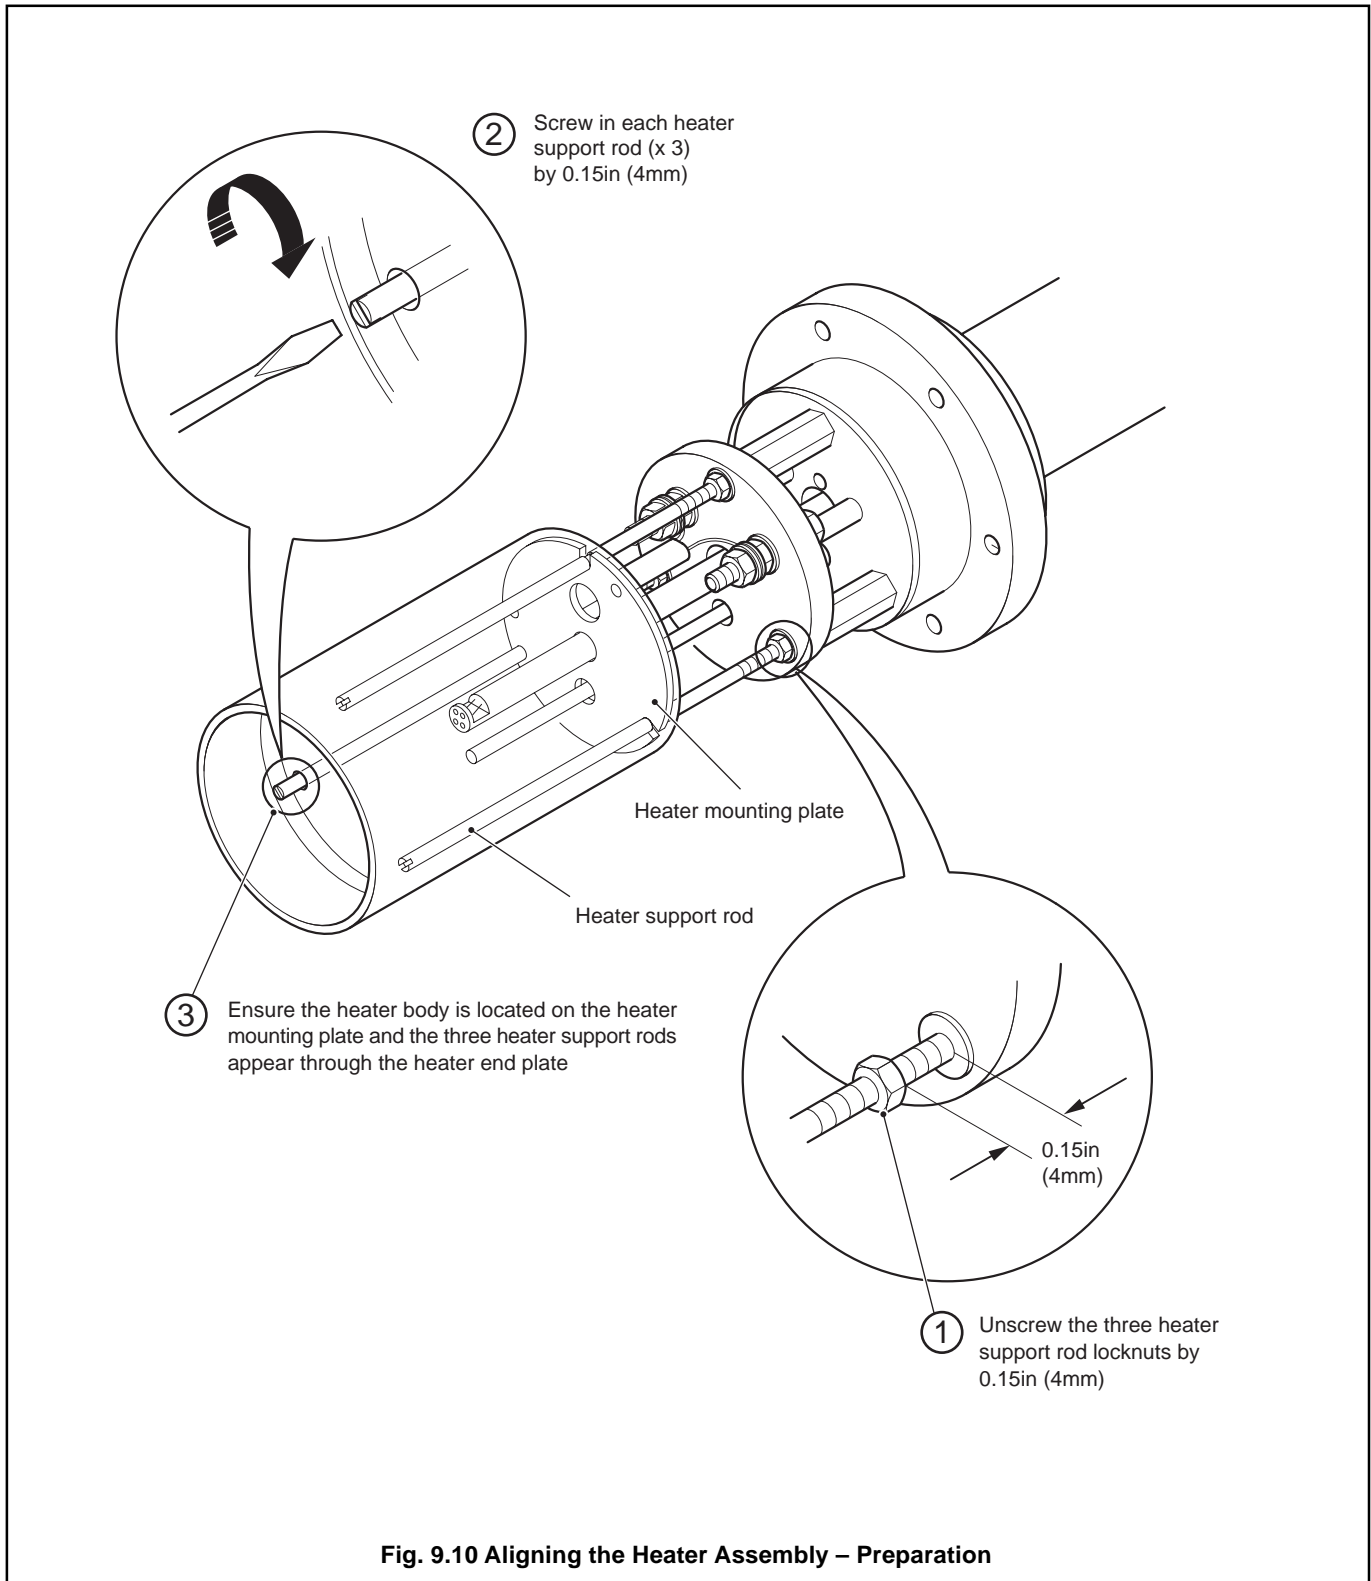

Fig. 9.10 Aligning the Heater Assembly – Preparation
- b) Align the heater assembly as described in Fig. 9.10.
### 9.5.3 Aligning the Heater Assembly – Figs. 9.10, 9.11 and 9.12
- a) Align the heater assembly as described Figs. 9.10, 9.11 and 9.12.